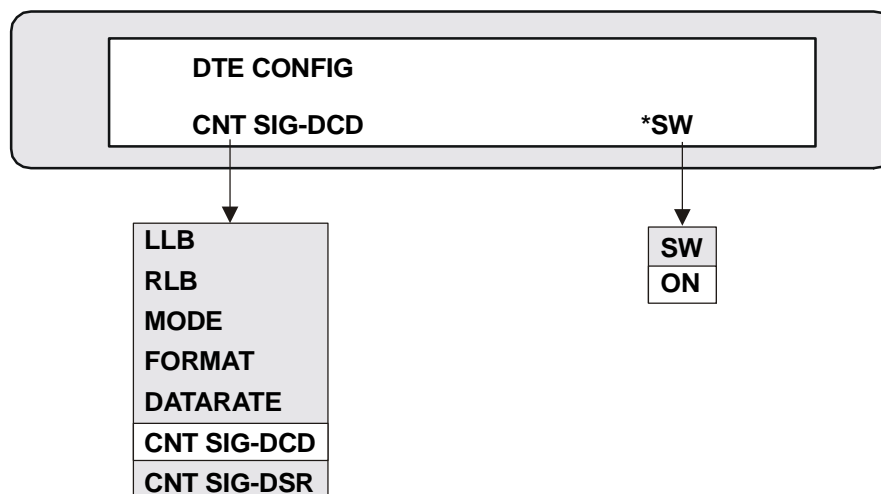

Figure 4-8. Selecting DCD Mode
4. Press the SCROLL button until CNT SIG-DCD is displayed (see Figure 4-8).